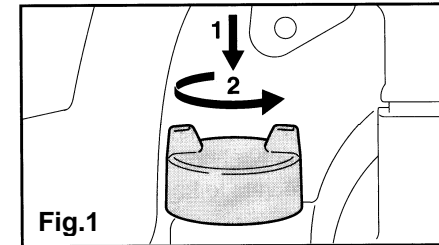

Fig.1
- Opening the cap (Fig.1): Push the cap downwards to the stop position by hand, turn anti-clockwise (about 1/8 of a turn) and remove the cap.